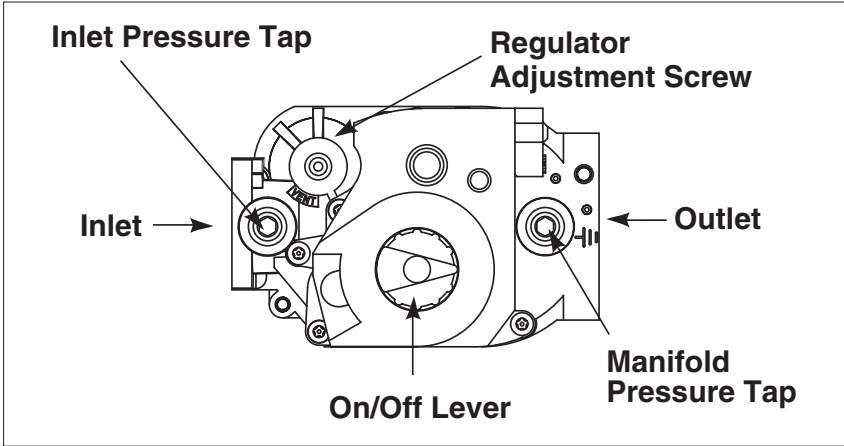

Figure 2. Gas Valve
the outlet side of the gas valve. Refer to Figure 2.
1. If the manifold pressure must be adjusted, remove the protective cap from the top of the gas valve regulator, as shown in Figure 2.